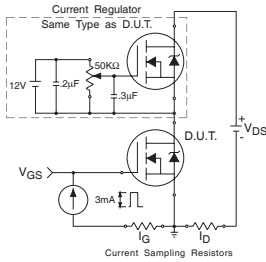

Fig 16a. Gate Charge Test Circuit
3. Equation below based on circuit and waveforms shown in Figures 16a, 16b.